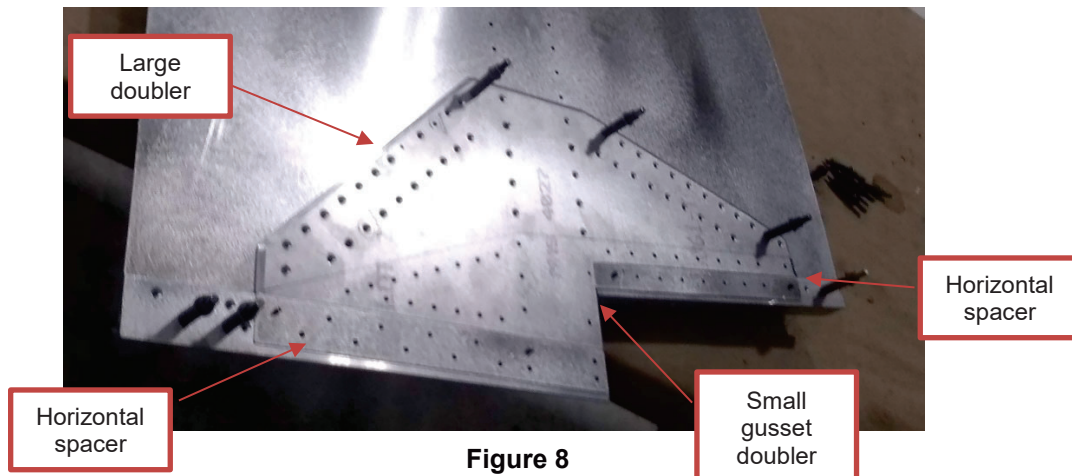

Figure 8
6. Cleco the small gusset doubler onto the new skin patch replacement. Align horizontal spacers below gusset doubler (see Figure 8).